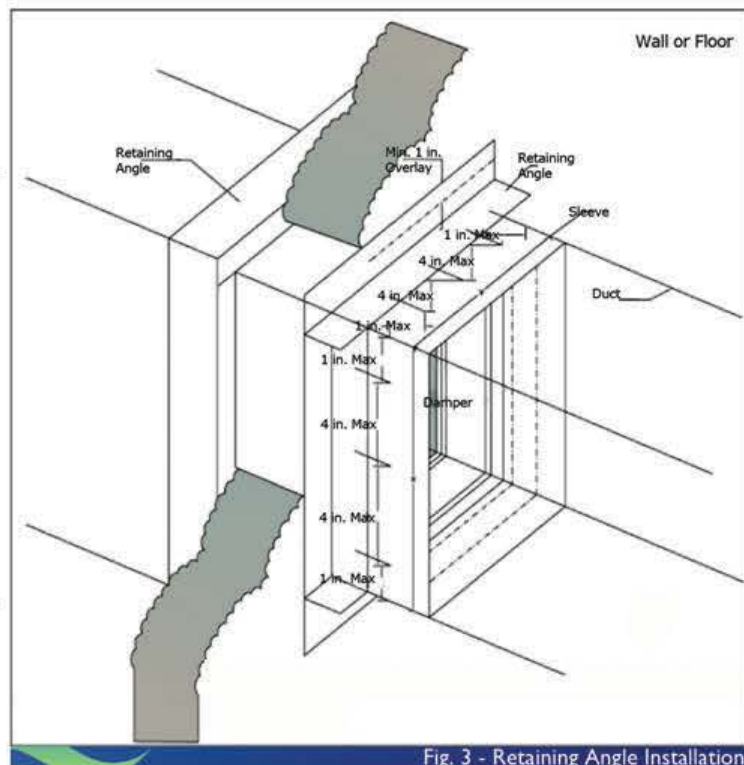

Fig. 3 - Retaining Angle Installation
1. 8mm bolts and nuts with washer as shown in figure 3
- Retaining angles must be attached to damper as shown in figure 3. It must be attached to all 4 sides of the sleeve with one row of attachments on each side. Attachments must be spaced a maximum of 100mm on centers and a maximum of 25mm from corners by using 8mm bolts and nuts with washer.
- Retaining angles must completely cover the clearance space between the sleeve and the wall/floor opening, plus overlap the wall/floor a minimum of 1" this coverage includes all corners as shown in figure 3. Retaining angles should not be fastened to the wall / floor material, the angle should only sandwich the wall/floor and allow for dampers / sleeve expansion during periods of intense heat.